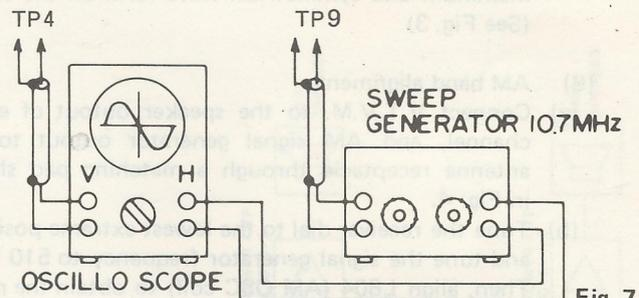

Fig. 7
- (b) Set the sweep generator frequency to 10.7 MHz. (See Fig. 7)